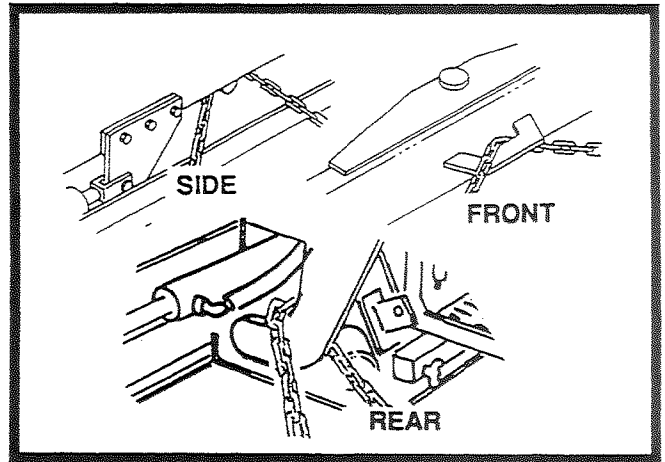

FIGURE 18
3. Refer to figure 18, three tie down points are shown. Because of the varying characteristics of the truck bed or trailer bed in use, it is not practical to describe the correct method to chain the paver down. In all cases the front tie point should be used. Depending on the truck or trailer used, at least one of the other tie points should also be used.